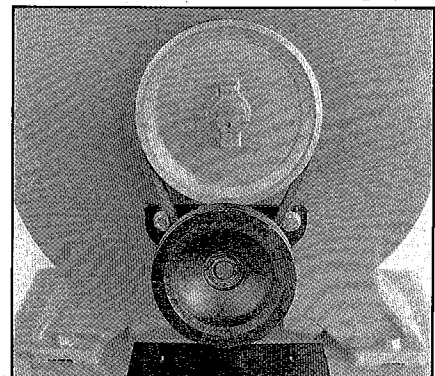

Fig. 4
6. Bolt the middle pulley assembly to the saw body, as shown, using two M8 x 25 hex cap bolts, two 5/16" flat washers, and two 5/16" lock washers. Do not tighten at this time. See figure 4.